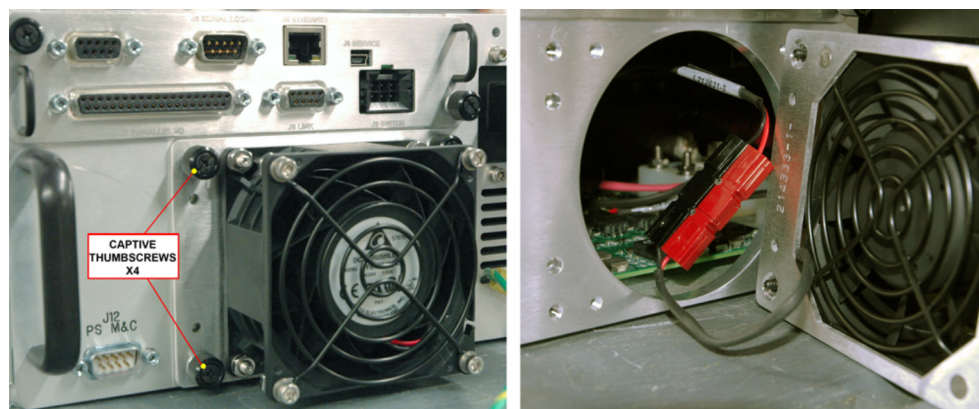

Figure 5: 3RU SSPA, Rear Fan Assemblies
The exhaust fans on the rear panel are each secured by four (4) captive thumb screws. To remove, loosen the screws and carefully remove the fan assembly from the chassis. Unplug the fan power cord from the connector. See Figure 5.